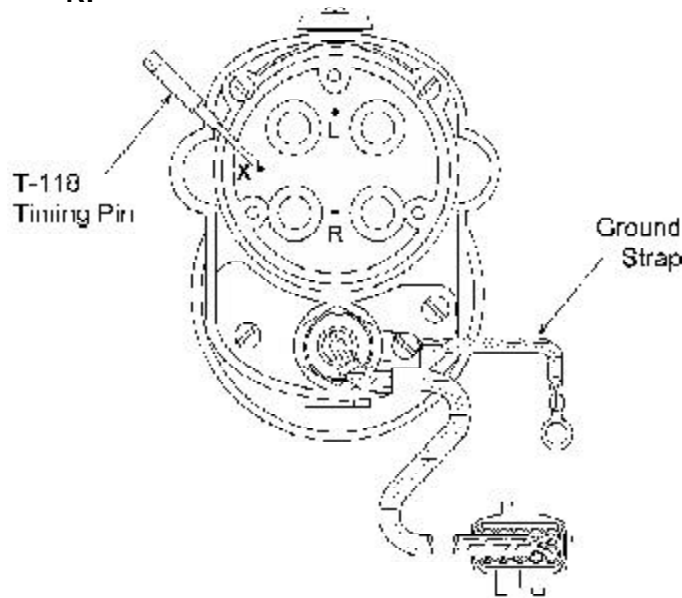

Figure 3
- A. Align and lock the magneto rotor in the proper position for installation in the engine by inserting the T-118 Timing Pin into the hole in the distributor block labeled "X." See Figure 3. Carefully rotate the magneto drive shaft until the timing pin is fully seated.
- A. Align and lock the magneto rotor in the proper position for installation in the engine by inserting the T-118 Timing Pin into the hole in the magneto distributor block labeled "X". See Figure 3. Carefully rotate the magneto drive shaft until the timing pin is fully seated.